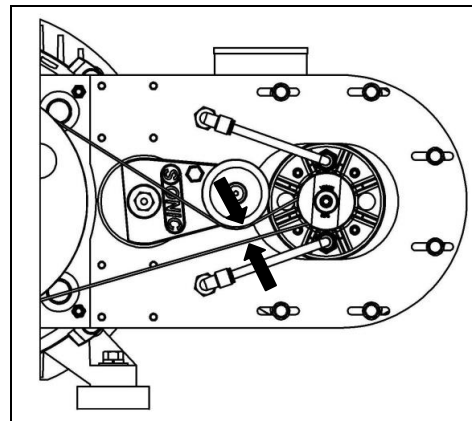

Figure 11 – Verify Belt Gap
4. Verify that the belt gap is approximately ¾ inch ±1/16 inch (Factory Set). (See Figure 11)